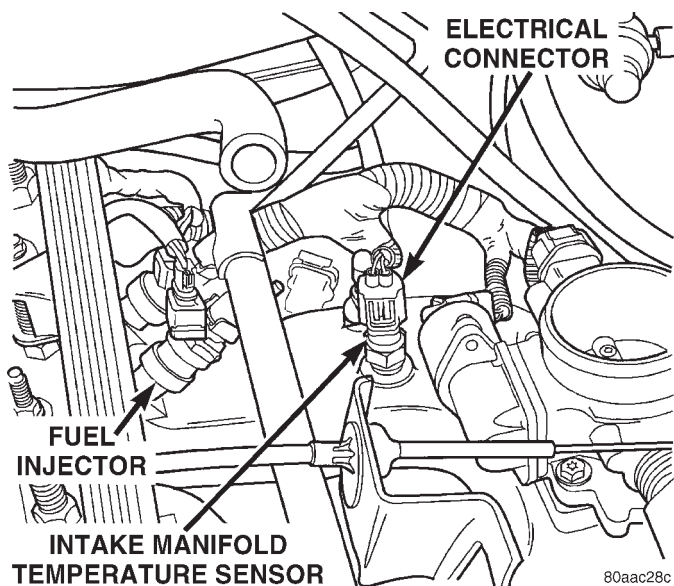

Fig. 19 Intake Manifold Air Temp. Sensor Location—2.5L Engine
(13) Inspect air cleaner inlet and air cleaner element for dirt or restrictions.
(14) Inspect radiator grille area, radiator fins and air conditioning condenser for restrictions.
(15) Verify intake manifold air temperature sensor wire connector is firmly connected to harness connector (Fig. 19) or (Fig. 20).